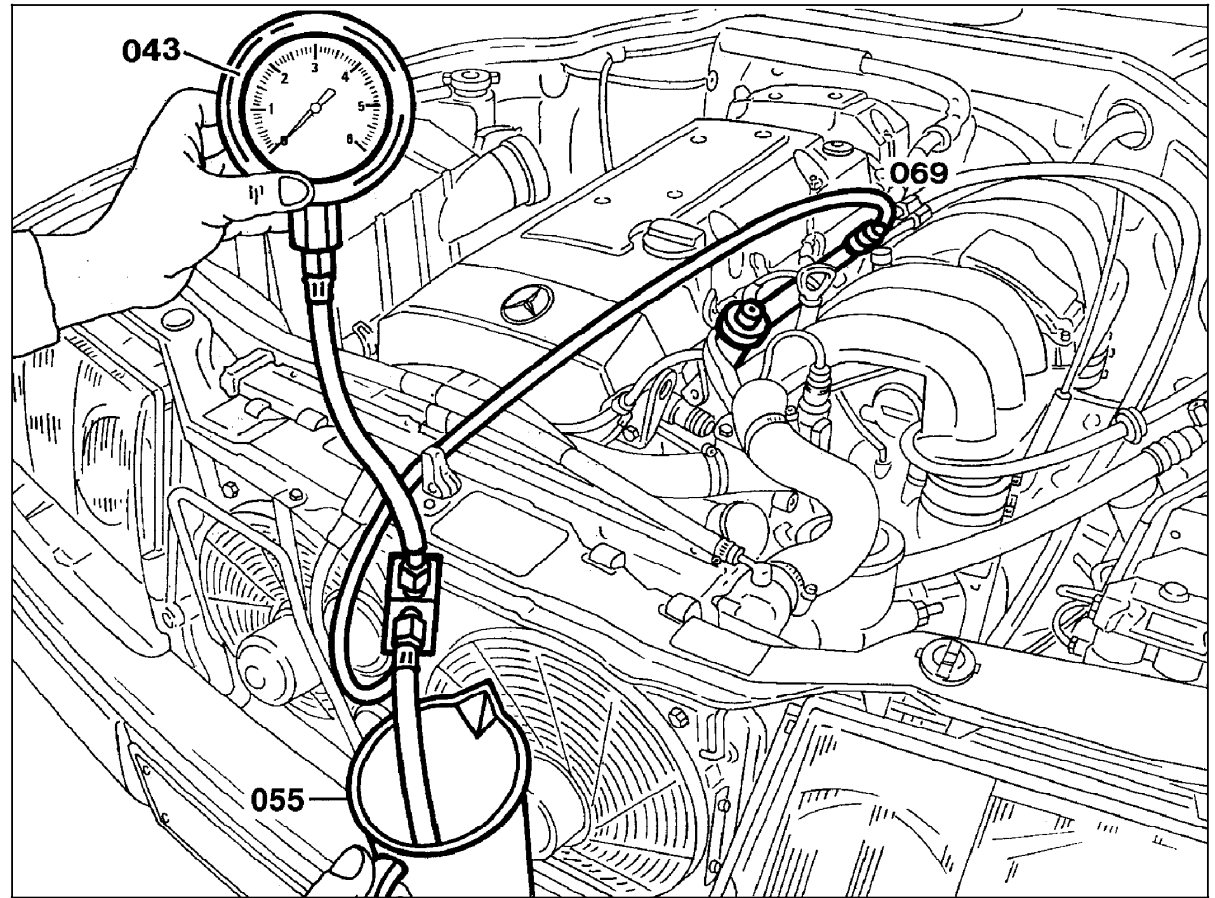

Figure 1
5. After completing test, using measurement glass (055), release fuel pressure and allow residual fuel to drain into glass (see Figure 1).